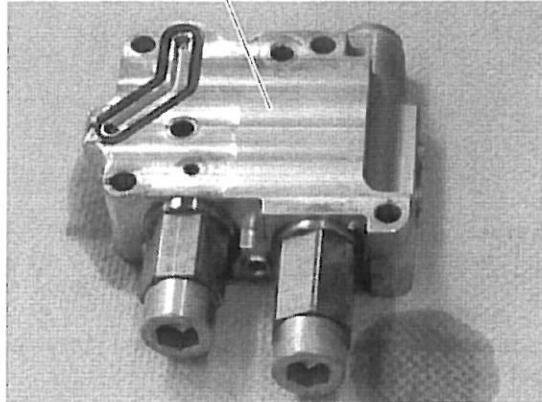

Figure 3
3. Remove the old oil cooler module and discard it. See Figure 3.